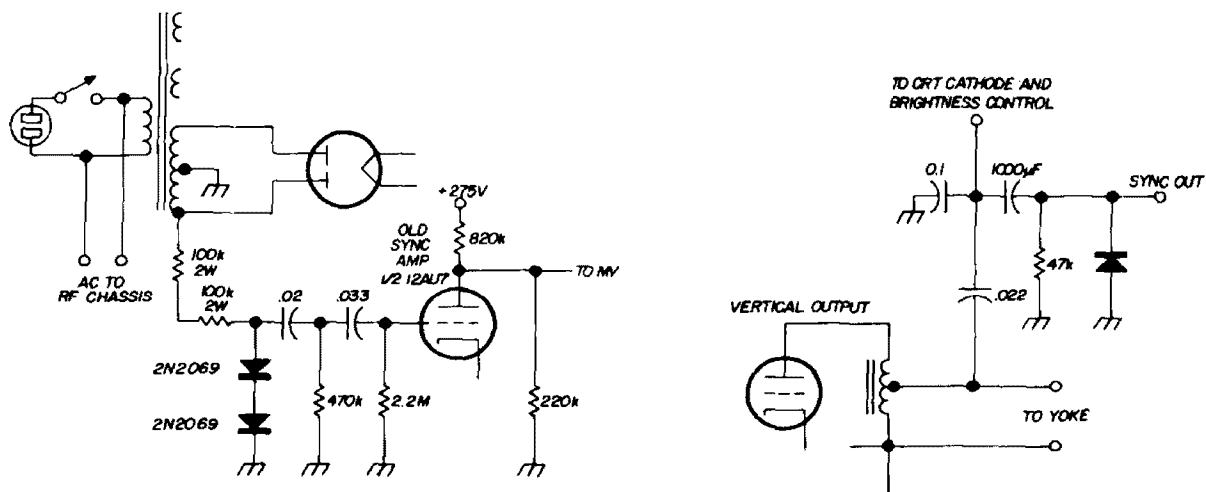

fig. 6. Modifications to the tv set used for display in the four-channel spectrum analyzer. An improved 60-Hz sweep circuit is shown in fig. 7.
3. A synch pulse is brought out through a shielded lead from the vertical output circuit. These circuit modifications are shown in fig. 6.